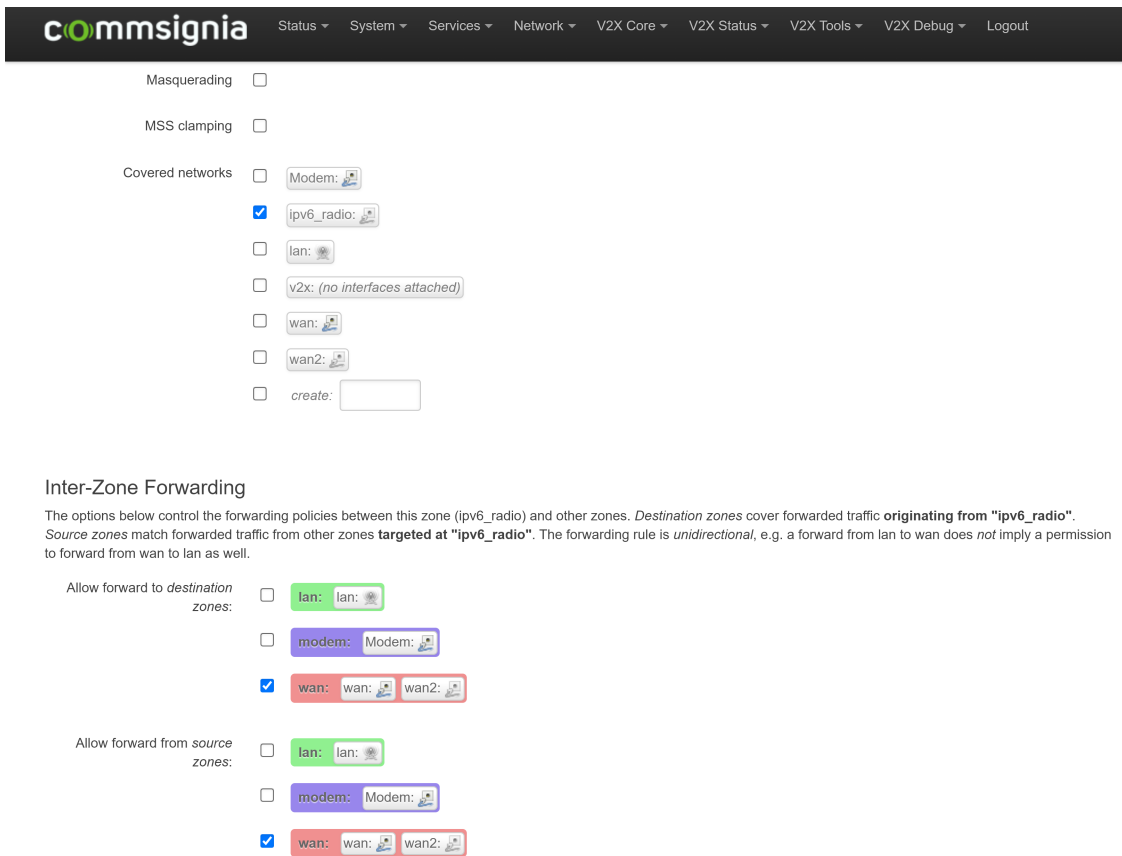

Figure 50. Enabling IPv6 forwarding in the Firewall settings.
- b. Under Inter-Zone Forwarding, check the boxes next to **wan**: at "Allow forward to destination zones:" and "Allow forward from source zones:," as shown in Figure .50